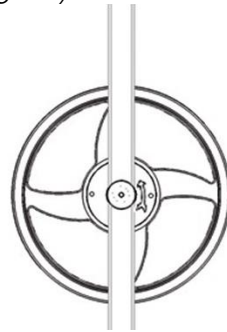

fig. 19
- check that the protection devices (fuses, magnetothermic switches) are correctly sized, and that the phases are connected in the correct order: check that the fan rotates in the direction of the arrow shown on the driven pulley (*see fig. 19*).